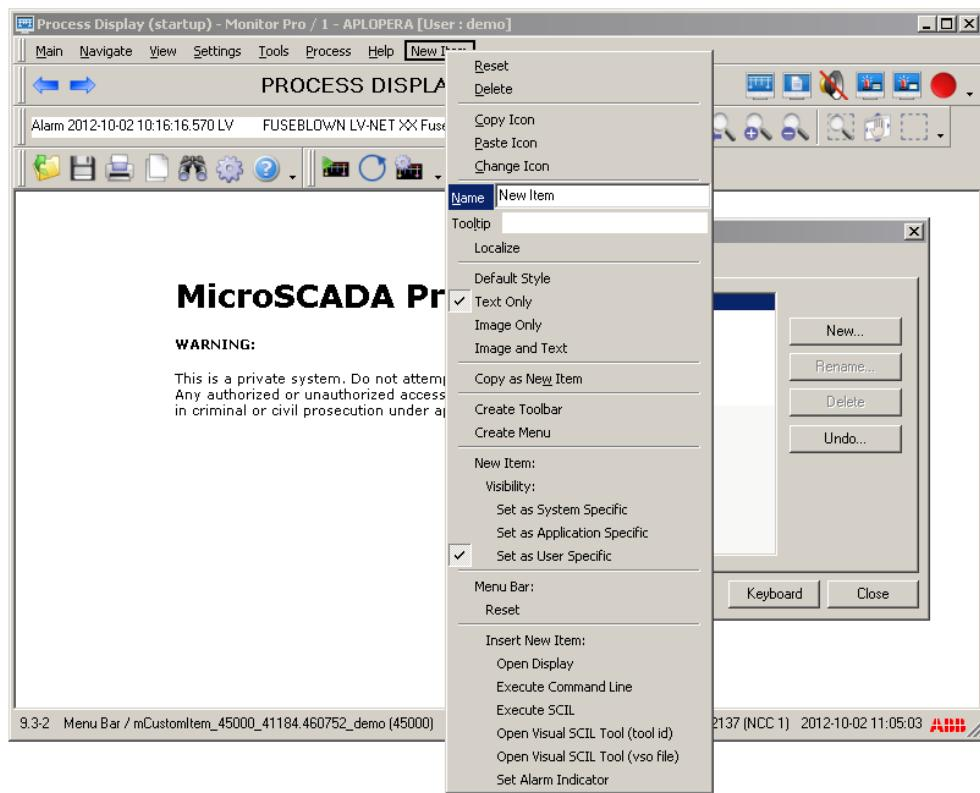

Figure 195: Renaming a new menu
5. Right-click a new menu and select **Name** to rename the menu with a descriptive name, see Figure 195.
5. Right-click the new menu and select **Name** to rename the menu with a descriptive name, see Figure 195.